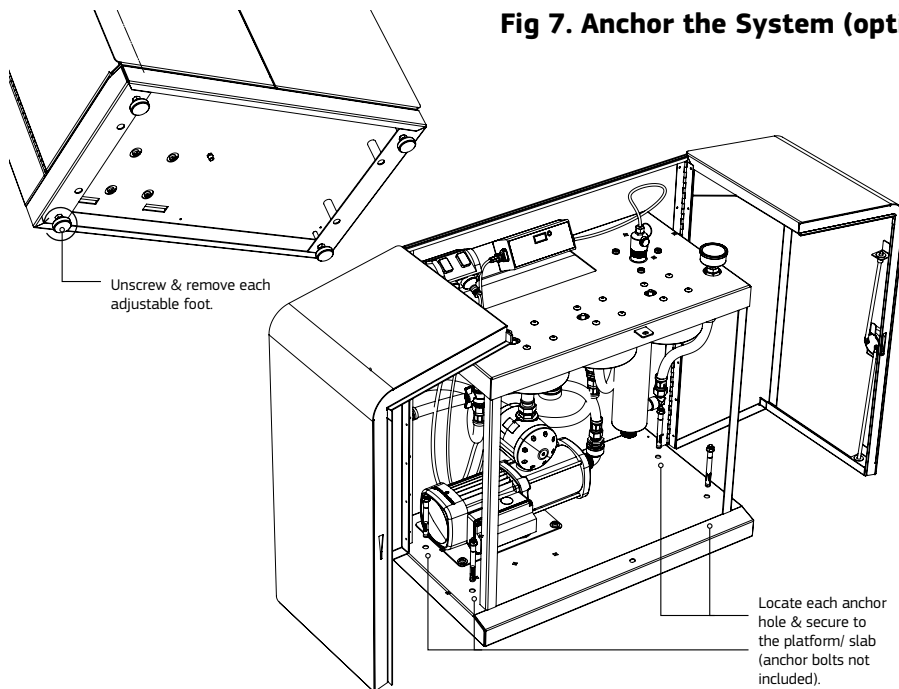

Fig 7. Anchor the System (optional)
- b. Drill the holes for the anchors into the platform or slab. Unscrew and remove the feet from the bottom of the cabinet. Locate the anchor holes inside the bottom of the unit and secure the unit in place using stainless steel anchor bolts with a maximum diameter of 12mm & a minimum length of 125mm (not included). See Fig. 7 for details.